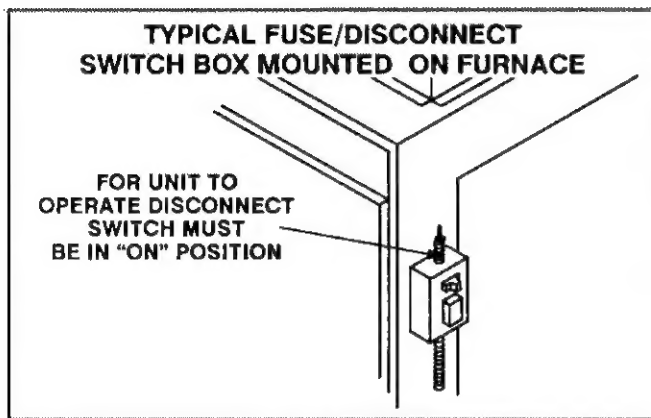

FIGURE 4
- 3- Turn off all electrical power to appliance. See figure 4.
1- Turn off power to furnace at unit disconnect switch. See figure 4.
- 1- Turn off power to furnace at unit disconnect switch. See figure 4.